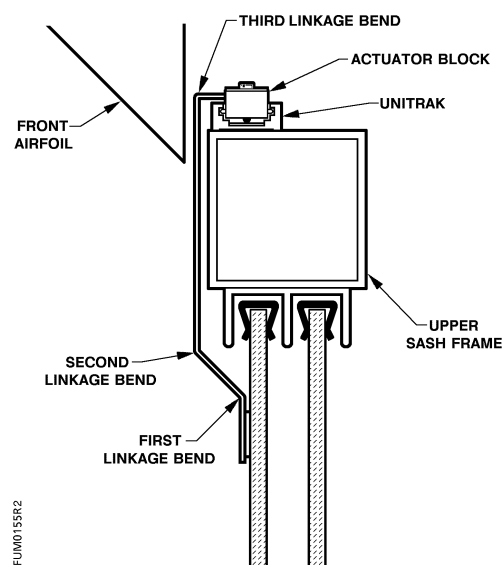

Figure 23. Completed Horizontal Linkage.
9. Bend linkage toward sash at 90-degree angle (Figure 23).